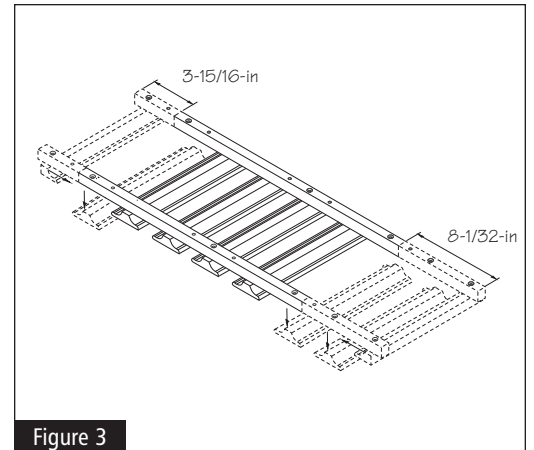

Figure 3
- 1** Place Stem Glass Holder unit on flat surface with the mounting strips facing up. Please note that the unit has a left (4-holes) and a right (5-holes). Using the screwdriver, remove the first two (2) rails on the left and replace the first (smaller) rail where the second rail was. Using the screwdriver, remove the first three (3) rails on the right and replace the first (smaller) rail where the third rail was. With Pencil, mark each end of both mounting strips. See Figure 3.